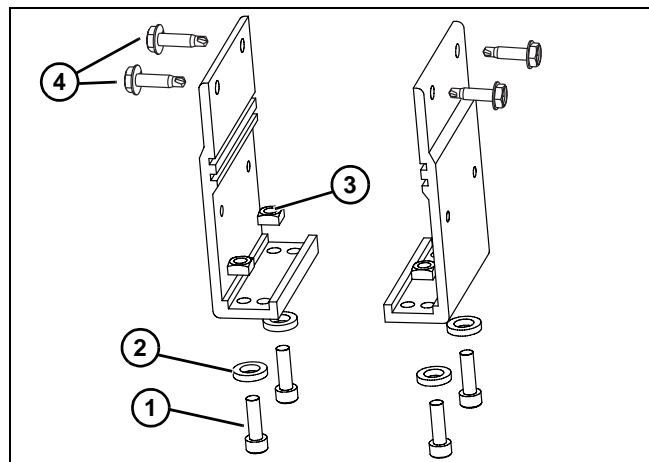
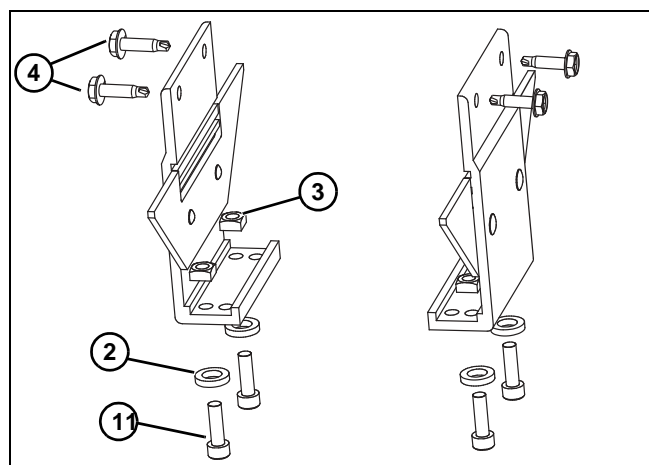

Figure 9
Figure 10
1. Locate brackets. Exploded views shown in Figure 9 for flat belt & Figure 10 for a cleated belt.
2. Remove screws (Figure 9, item 1) or (Figure 10, item 1), washers (Figure 9, item 2) or (Figure 10, item 2), nuts (Figure 9, item 3) or (Figure 10, item 3) from brackets.
3. Locate and retain self-drilling screws (Figure 9, item 4) or (Figure 10, item 4).